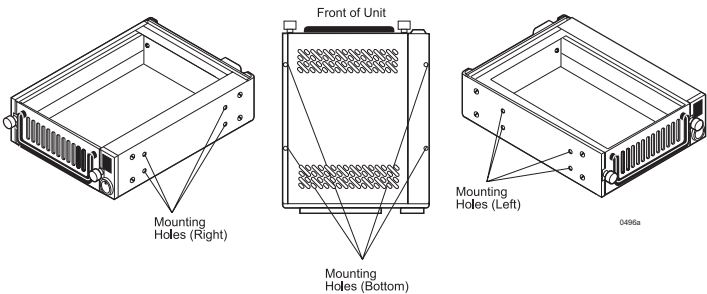

Figure 8: Receiving Frame Mounting Holes
4. With the drive carrier locked in place inside the receiving frame, install the DE200 into the 5.25" drive opening in the computer or expansion chassis. Use the appropriate guides to position the DE200 , and fasten it into place with the four (4) #6-32 Phillips screws provided. Figure 8 illustrates the location of the mounting holes. Mounting holes are provided on each side and the bottom of the receiving frame to accommodate a variety of mounting configurations. Use the mounting holes which best suit the computer or expansion chassis configuration.